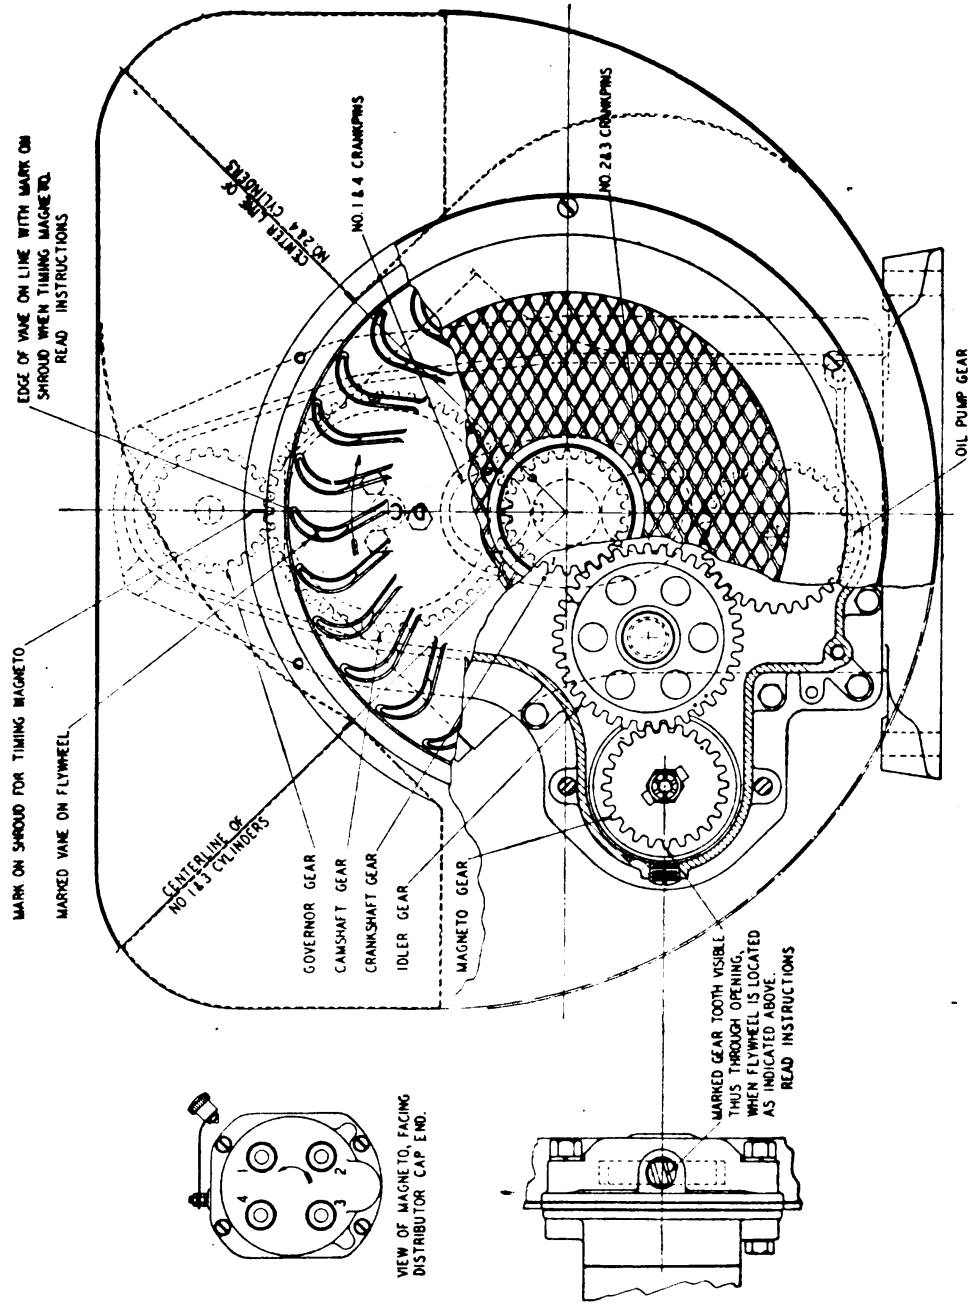

FIGURE 6—POWER UNIT PE-99-E TIMING DIAGRAM
a. First remove the screen over the flywheel air intake opening by taking out the six screws holding the screen in place. This will expose the mark on shroud for timing magneto. (See Figures 6 and 7). Next remove the spark plug from Number 1 cylinder. Then turn engine slowly over with the starting crank until the compression in this cylinder blows the air out of spark plug hole.
b. The flywheel is marked with the letters DC near one of the air circulating vanes. This vane is further identified by a mark cast on one end. (See Figure 6.) When the air blows out of the Number 1 spark plug hole, continue turning the starting crank until the edge of the marked vane on flywheel is in line with the mark on shroud as shown in Figure 6. Leave flywheel in this position. The keyway at take-off end of crankshaft will be on top. The magneto should then be fitted to the engine so that the marked tooth on the magneto gear is visible through the opening in timing gear housing as shown on Figures 6 and 7. The distributor cap on the magneto is numbered from 1 to 4. The leads from the magneto should be connected to spark plugs of like number. The magneto breaker point opening should be from .015 to .018 of an inch and these points should be kept smooth and clean. The proper spark advance for these engines is 27°. MAGNETO OVERHAUL SHOULD BE MADE ONLY BY AUTHORIZED PERSONNEL.